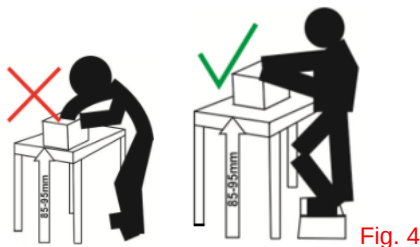

Fig. 4
- Never put yourself in a position where your face is exposed to burns caused by hot water vapours from the tank. Use the correct posture (Fig. 4) when immersing and removing the food containers into the water,
- Place it on a stable, flat and rigid surface. For optimum user comfort, the appliance must be placed between 85 and 95 cm from the ground (Fig. 4)